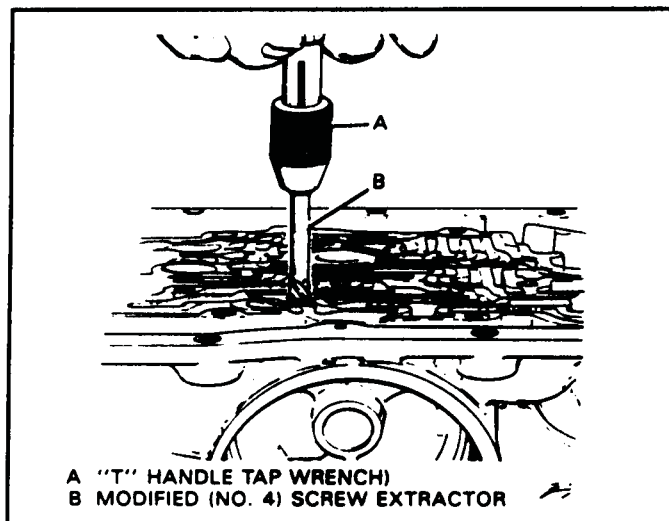

Figure 40
1. Insert a No. 4 screw extractor into a tap handle as shown in Figure 40.
2. Insert screw extractor into 3rd accumulator ball capsule assembly as shown in Figure 40.
3. Pull straight up while turning the tap handle counter-clockwise (See Figure 40).